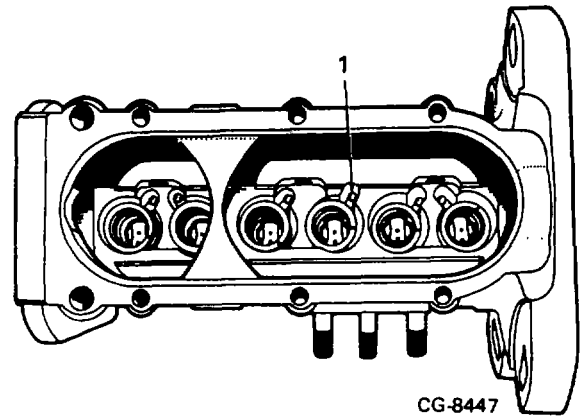

Figure 28. Rack Positioning
- 30. Position rack so control sleeve ball is in notch of pump housing (Figure 28).